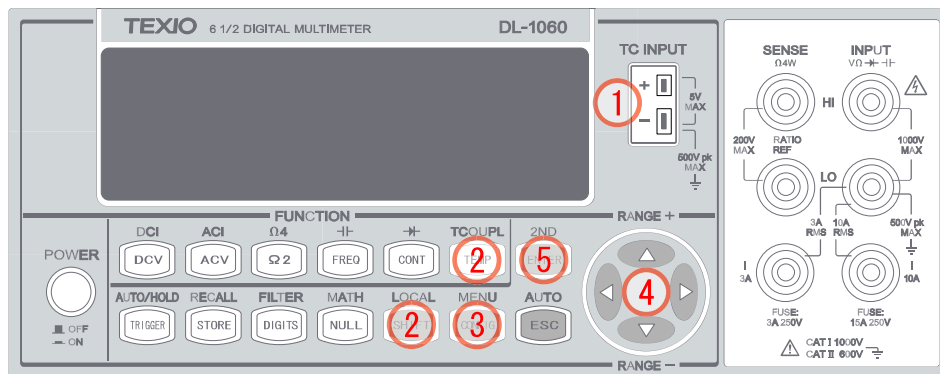

Figure 3-13
1. Select a type and matched an adaptor correctly as shown in **Figure 3-13**.